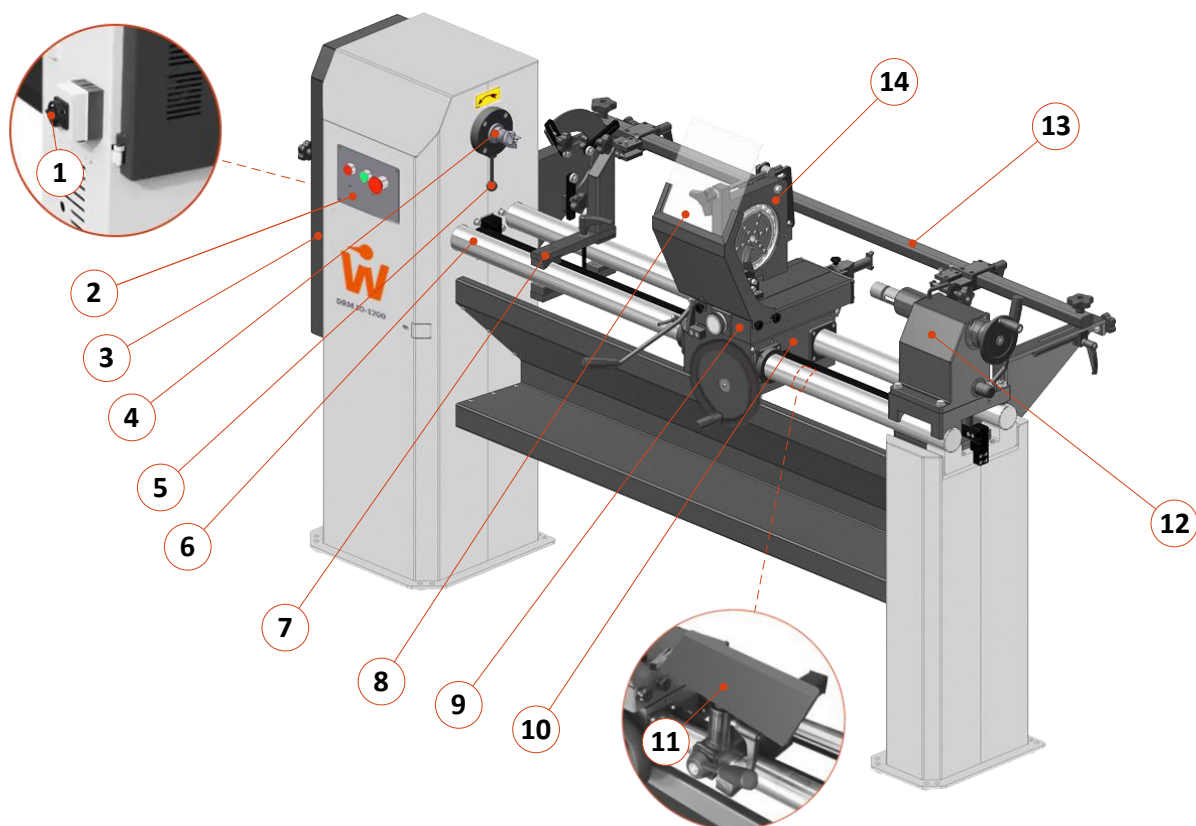

Figure 8: Machine overview - main components
- The direction of rotation is also marked with a sign above the spindle (see ⇨ Figure 8).